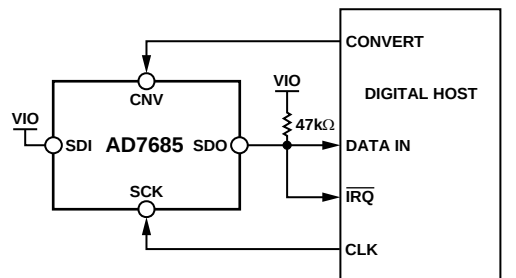
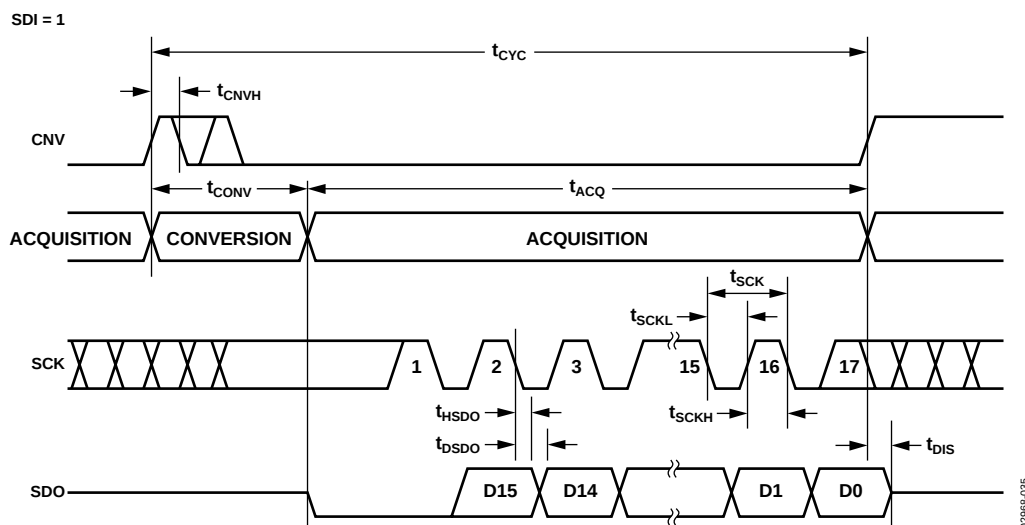
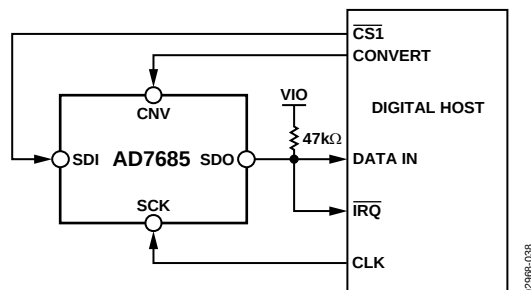
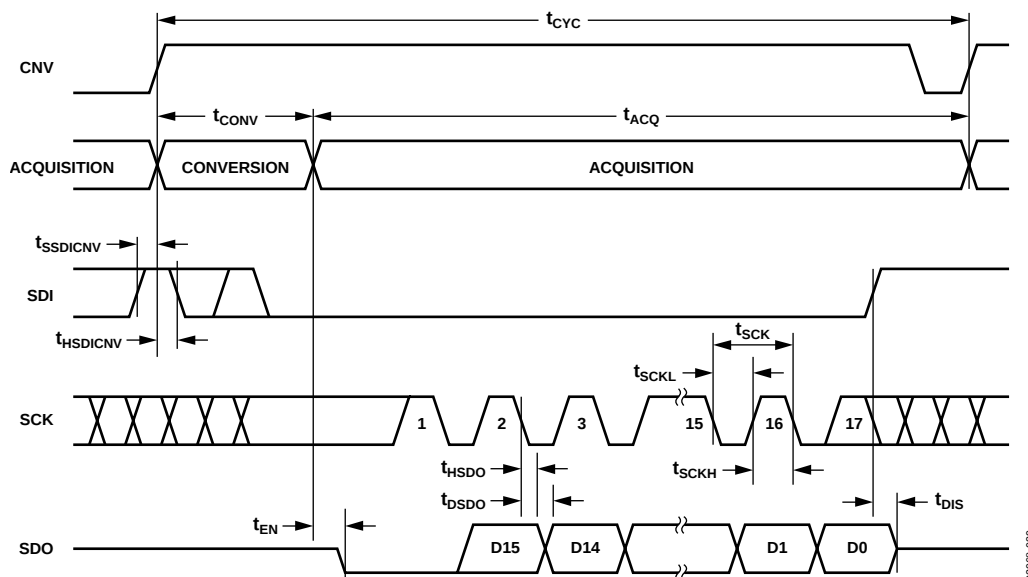

Figure 35. $\overline{\text{CS}}$ Mode 3-Wire with *BUSY* Indicator Connection Diagram (SDI High)
Figure 36. $\overline{\text{CS}}$ Mode 3-Wire with *BUSY* Indicator Serial Interface Timing (SDI High)
Figure 39. $\overline{CS}$ Mode 4-Wire with *BUSY* Indicator Connection Diagram
Figure 40. $\overline{CS}$ Mode 4-Wire with *BUSY* Indicator Serial Interface Timing
- In the $\overline{\text{CS}}$ mode, if CNV or SDI is low when the ADC conversion ends (Figure 36 and Figure 40).
The connection diagram is shown in Figure 35 and the corresponding timing is given in Figure 36.
The connection diagram is shown in Figure 39 and the corresponding timing is given in Figure 40.